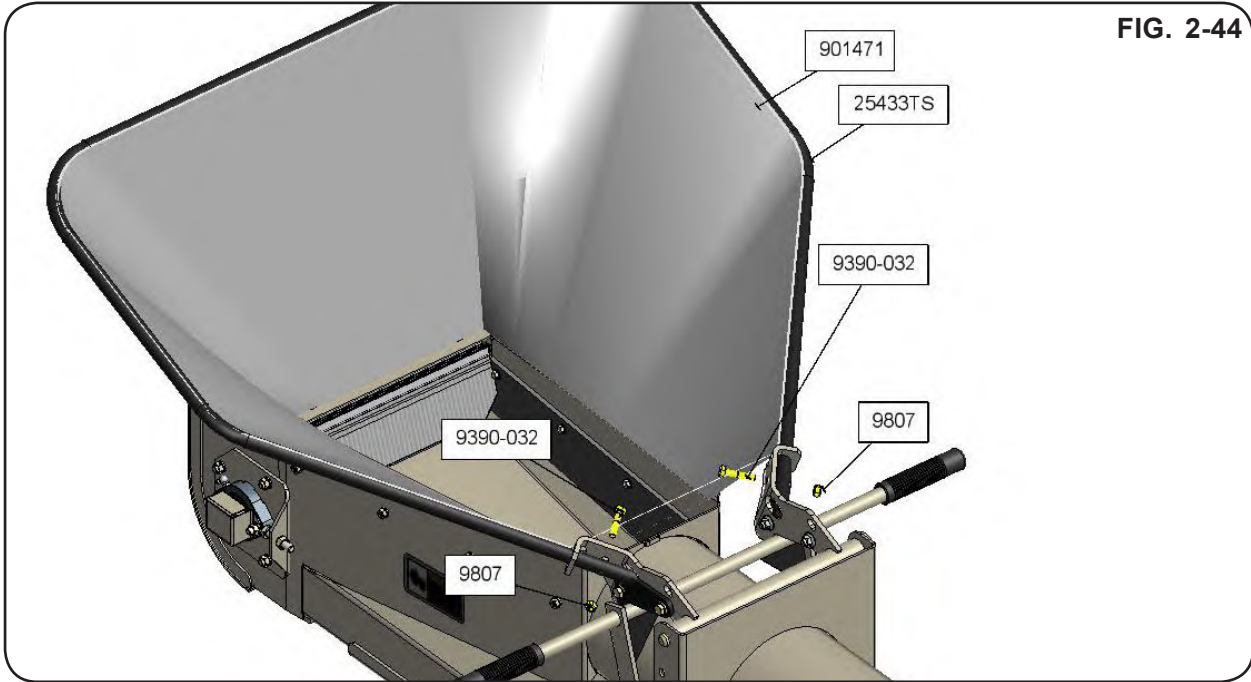

FIG. 2-44
4. Attach the vinyl hopper (901471) on the bent tube (25433TS) as shown in Fig. 2-44.
5. Secure the assembled vinyl hopper to the pivot weldment (25393TS) with 5/16"-18UNC x 1 1/2" capscrews (9390-032) and 5/16"-18UNC locknuts (9807) (Fig. 2-44).